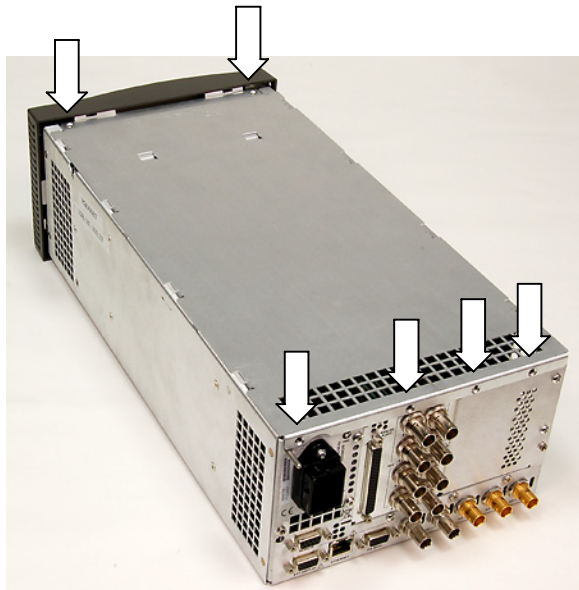

Figure 5: Removing the chassis cover
3. Remove the six screws from the chassis cover as shown in Figure 5. Save the screws for reinstallation.